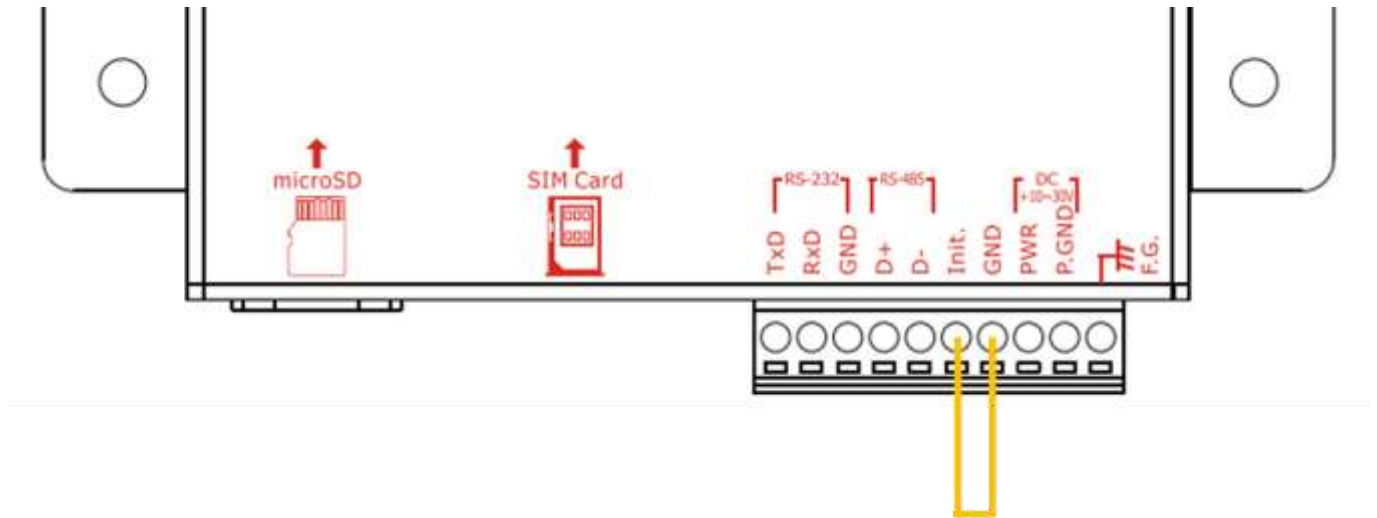

Figure 6.10.1
A. Determine that the 4th pin and the 5th pin on the GTP-541M are successfully connected, as shown in Figure 6.10.1